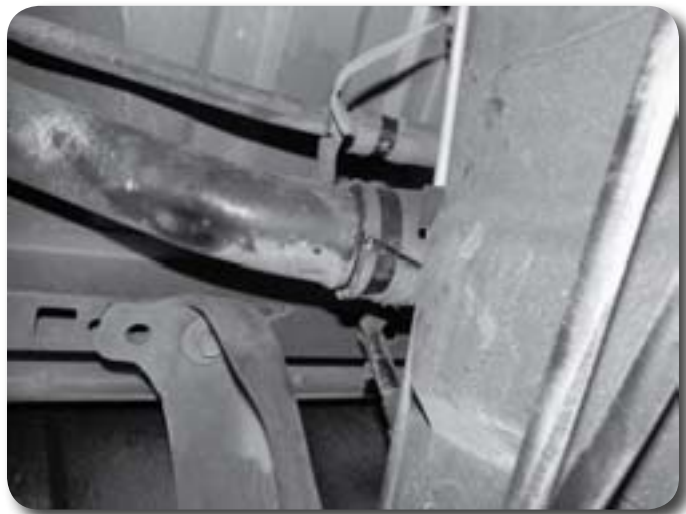

Figure 33
53. Remove the bolt retaining the fuel filler ground wire to the frame Figure 33. Loosen the hose clamps retaining the fuel filler and vent hoses to the filler neck and the fuel tank. Remove the hoses from the fuel tank and the filler neck.